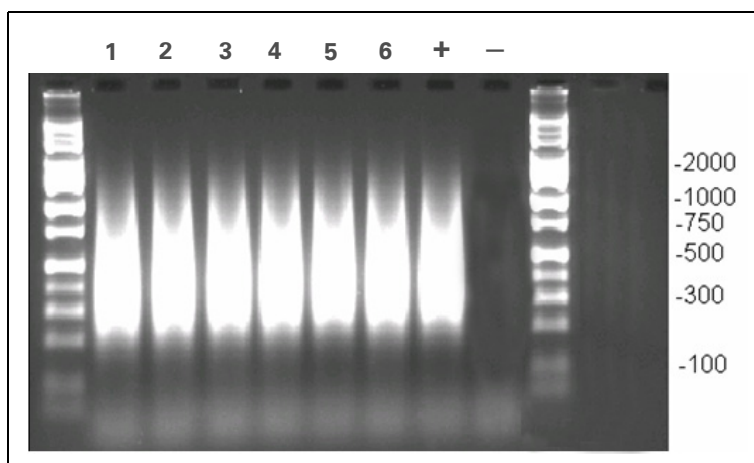

Figure 4.15 Example of PCR products run on 2% TBE agarose gel at 120V for 1 hr. Average product distribution is between ~200 to 1100 bp.
13. Verify that the PCR product distribution is between ~250 bp to 1100 bp (Figure 4.15 on page 50).